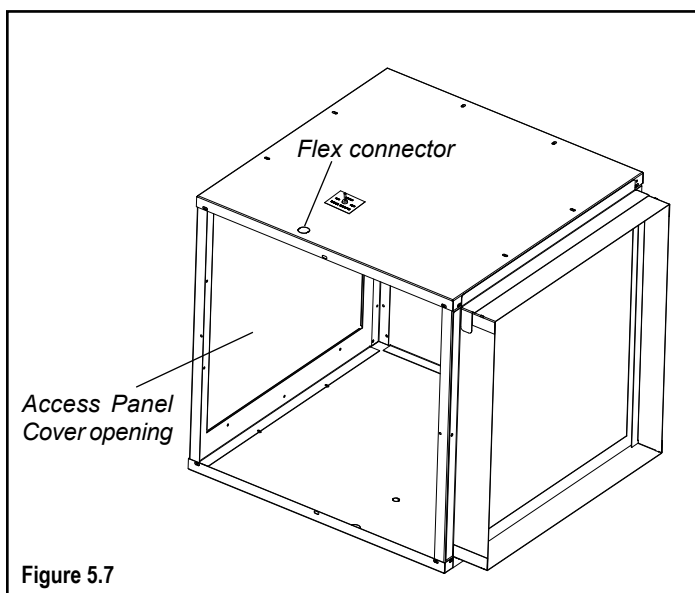

Figure 5.7
6. Pry out the two knockouts in the top of the box and install the flex connector and 3 speed switch. See Figure 5.7.